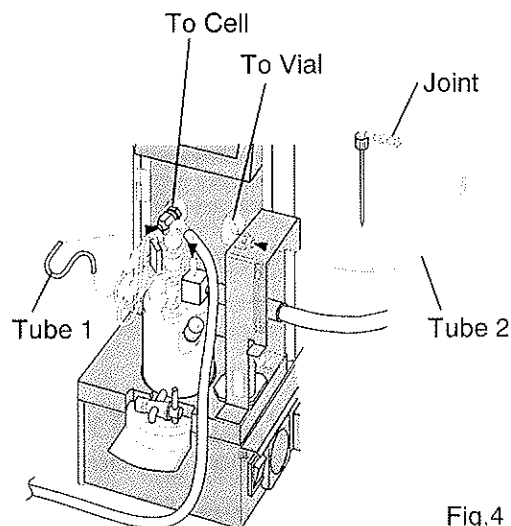

Fig.4
- 9) Connect the supplied tube1 ($\phi 3 \times 2$) to the joint (showing "To Cell") in front of CHK-501 and to the bubbler tube (Fig.4).
- 10) Connect the supplied tube2 ($\phi 3 \times 2$) to the joint and "To Vial" in front of CHK-501 (Fig.4).